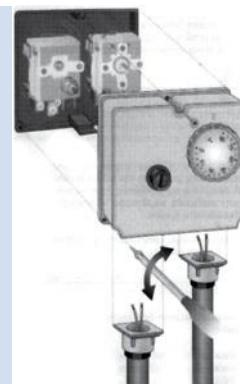

fig 5
- B) Unscrew the three bolts and remove the front part of the thermostat. Unravel the power supply wires and connect them to the terminals of the thermostat (Figure 5) following the instructions.